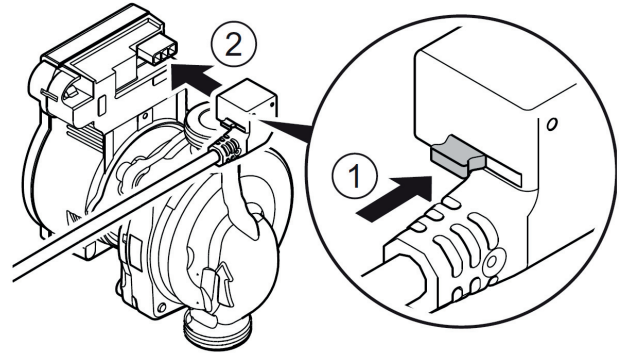

Fig. 6.3:
- Press down the locking button of the 3-pin pump plug and connect the plug on the plug connection (12) of the control module until it engages (Fig. 6.3).